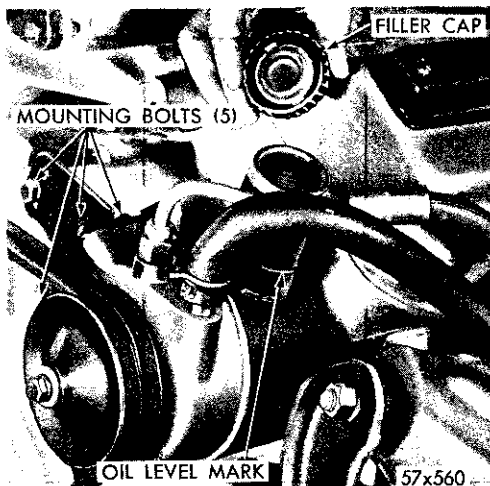

Fig. 67—Sleeve Type Power Steering Pump Installed
39. REMOVAL AND INSTALLATION (Fig. 67)